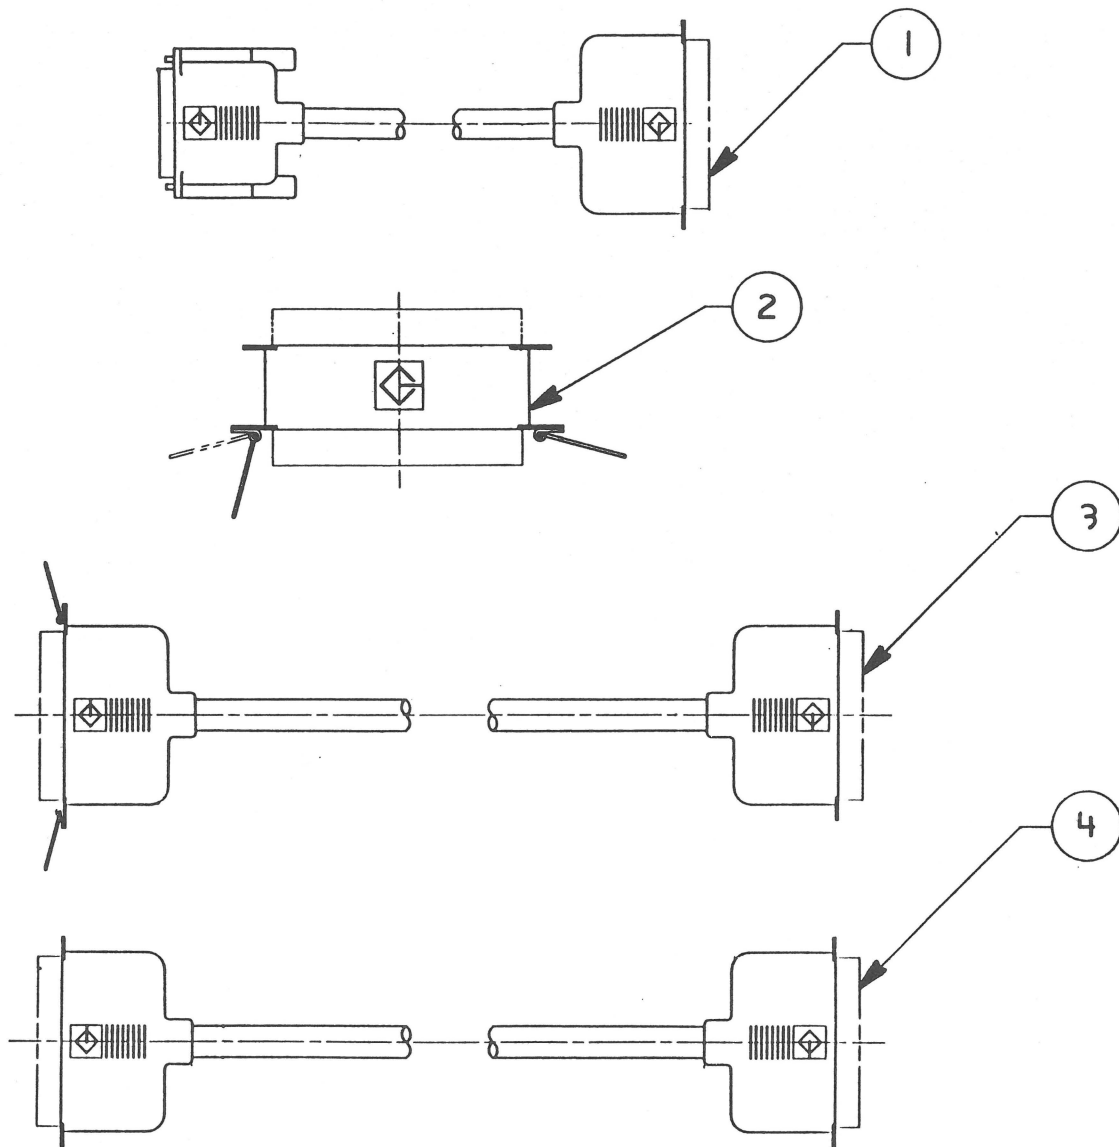

FIGURE 3
- IPL.7 Tape Backup 40SC – Cables (Figure 3)
□ TAPE BACKUP 40SC – CABLES (Figure 3)